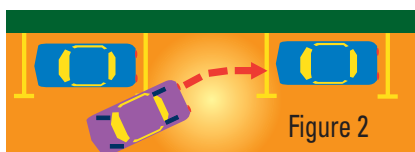

Figure 2
- (iv) Back up slowly until the front of the vehicle is even with the front door of the car beside you. Turn the wheel sharply to the right and back up slowly until the vehicle is at a 45-degree angle, straighten wheels and back up. When the front of your vehicle passes the rear of the car beside you, turn your wheel to the left sharply, then gradually while backing in. (Figure 2 & 3)